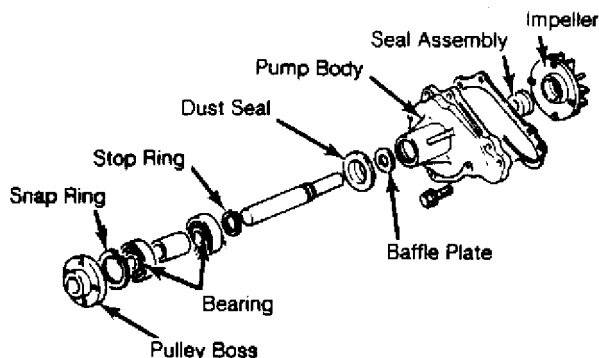

Fig. 32: Exploded View of Water Pump
2) Supporting the pump body, apply pressure to the rear end of the shaft to press the shaft, spacer, and bearing assembly out through the front of the pump body. See Fig. 32.